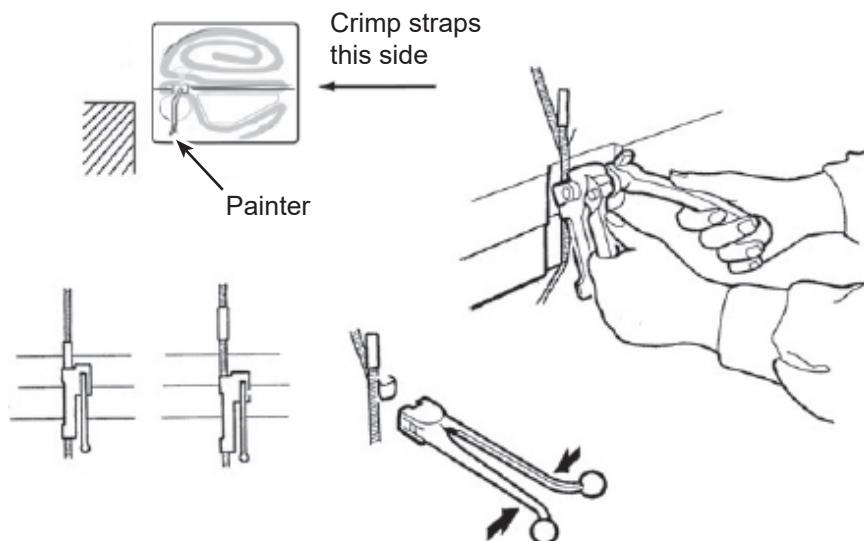

FIGURE 891
- 8.49 Adjust the ends of each strap so that the outer most strap end is facing upwards and is approximately 25 mm (1") above the rim of the container. Refer to **Figure 891**.
- 8.50 Apply the tensioning tool to the strap at a point half way across the two rims. Operate the handle to tension the strap until the base of the tensioning tool rests in the lower container rim. Refer to **Figure 891**.
- 8.51 Safety the strap with a crimp. Refer to **Figure 891**.